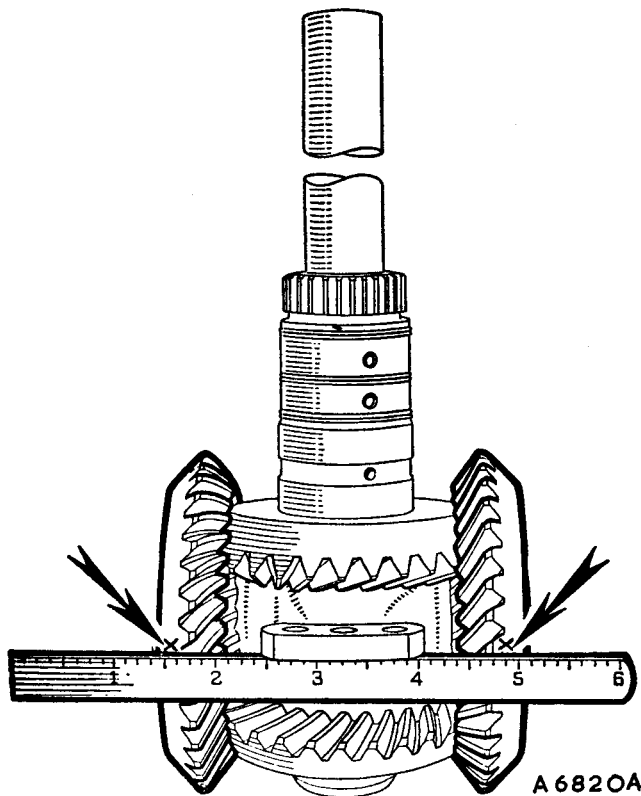

Fig. Fa.53
22. Check and reset the timing of the gear train (see Fig. Fa.53) by rotating the planetary gears until the timing marks are in alignment.